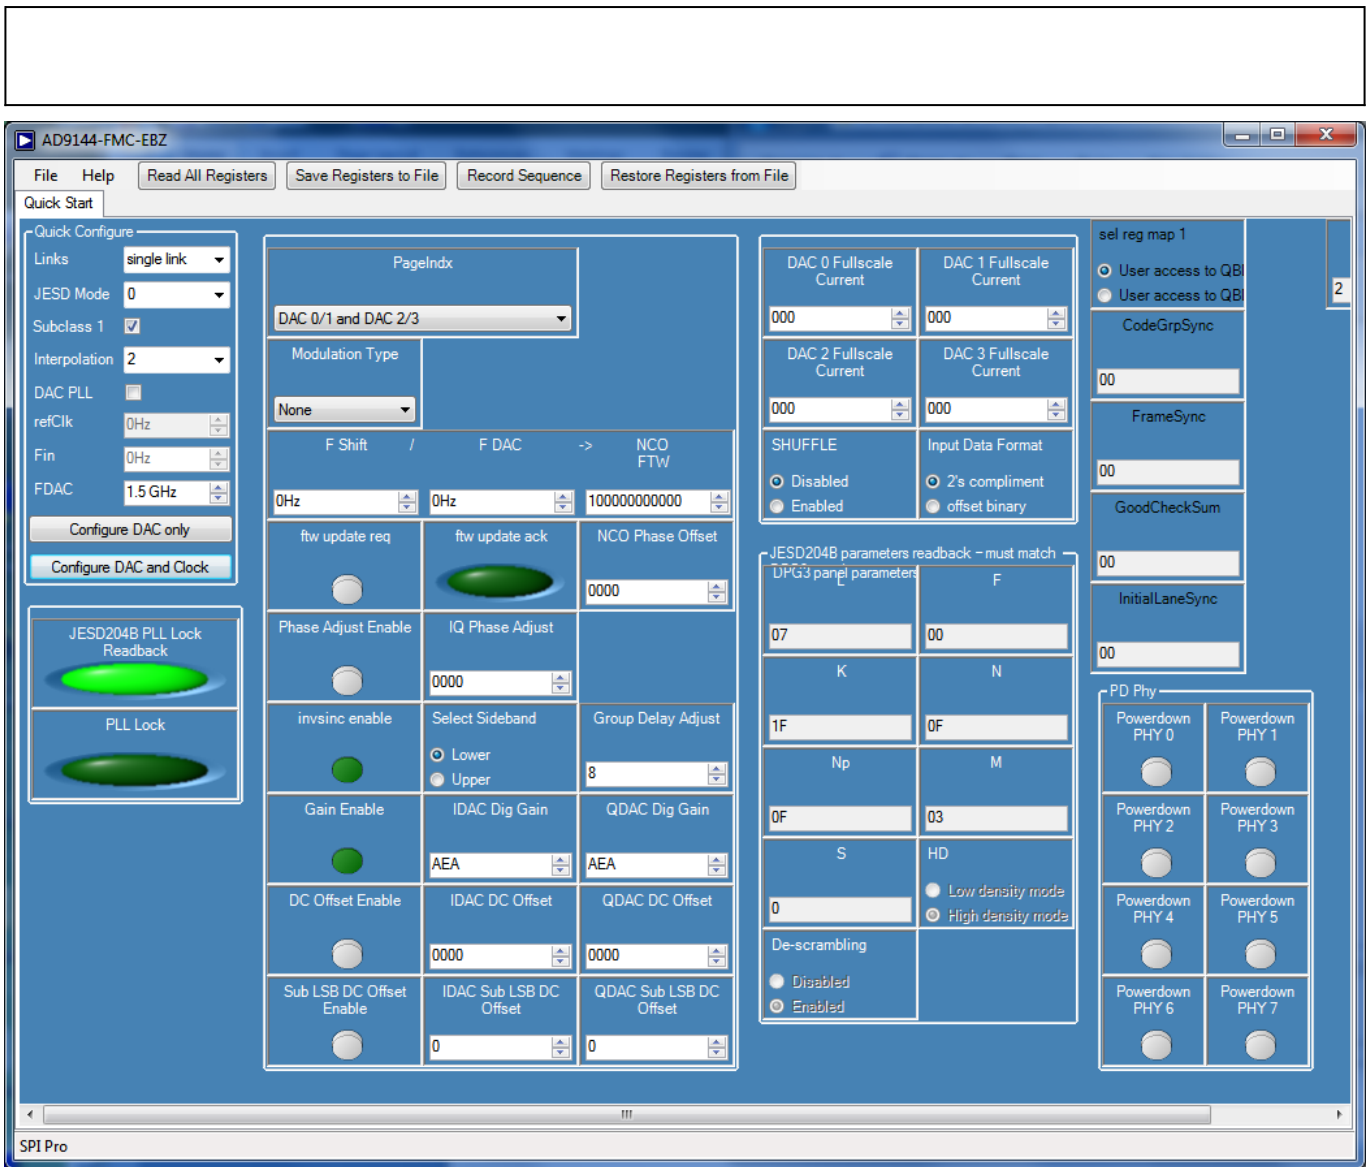

Figure 5. Fully Configured SPIPro Display
- On your lab computer, open the SPIPro application (Start > All Programs > Analog Devices > AD9144 > SPIPro). You will see the GUI shown in Figure 5 come up.